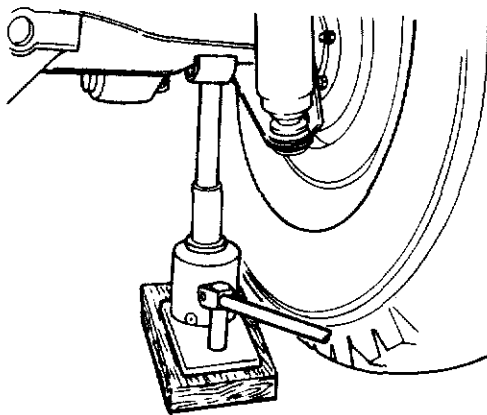

Figure 2-4 Jack position — rear wheels
- (2) Rear wheel. Position the jack so that when raised, it will engage with the rear axle casing immediately below the coil spring and as close as possible to the shock absorber mounting bracket (see Fig. 2-4).